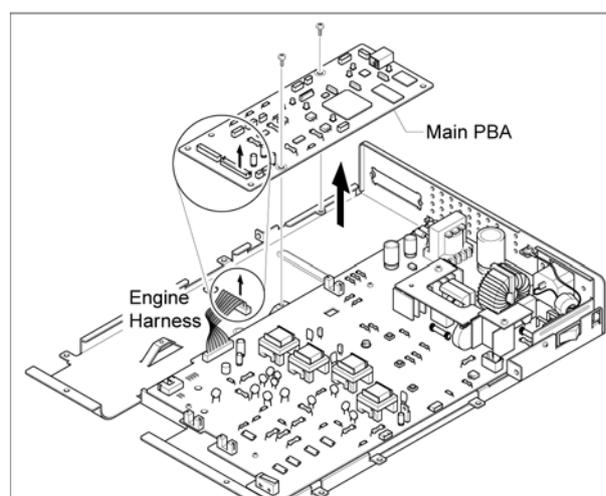

Figure 1
2. Disconnect CN 4. Remove 2 screws, then the Main PBA, Figure 1.